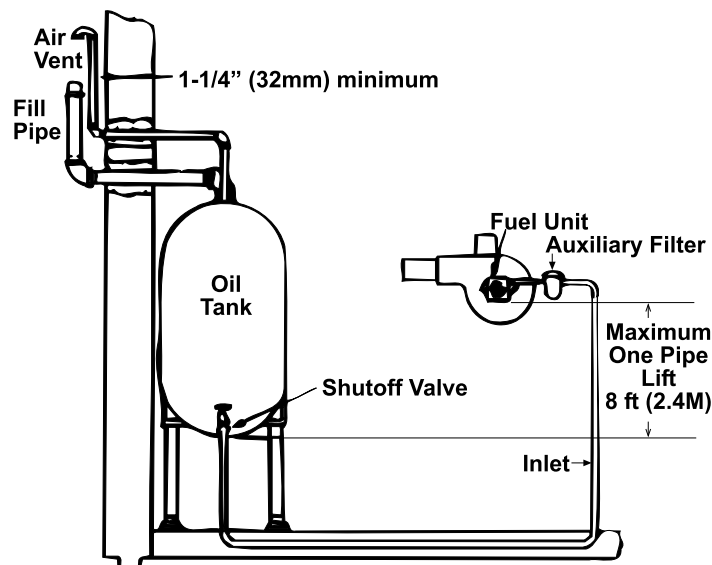

Figure 4. One-Pipe Supply System
- The standard burner is equipped with a single-stage, 3,450-RPM pump with the lift capacity shown in Figure 4.